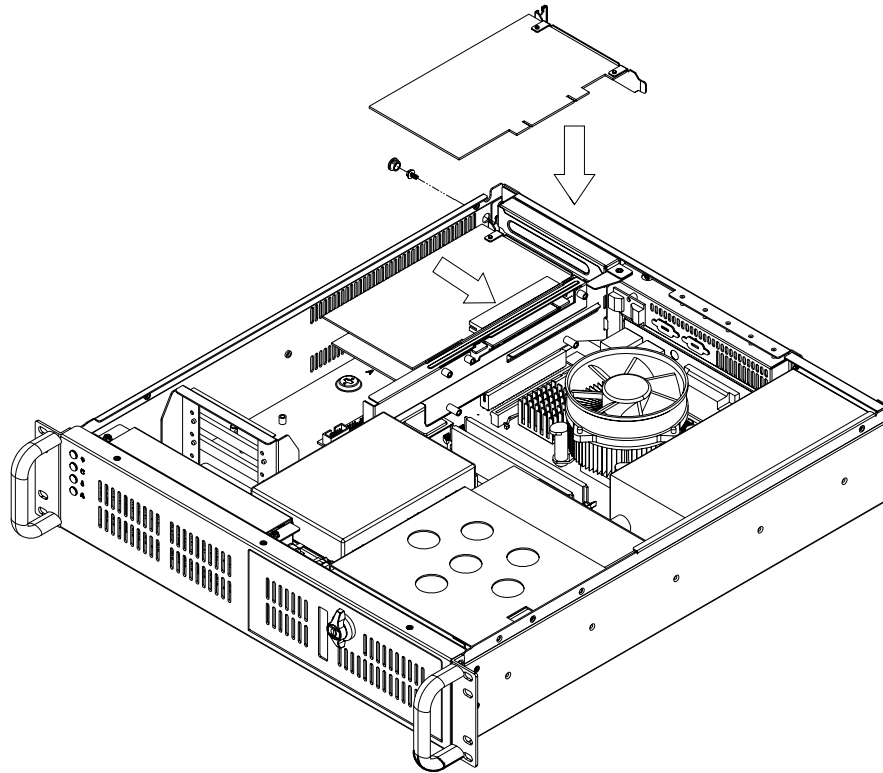

Figure 2.6 Installing an add-on card
2. Remove the corresponding I/O bracket attached to the rear plate of the chassis. Insert an add-on card vertically into the proper slot on the riser card. For full-length cards, please make sure that the card bracket has been inserted properly and the other edge of the card has been inserted into the plastic guiding fillister. Then fasten the screws on the top of the I/O bracket. (see Figure 2.6)